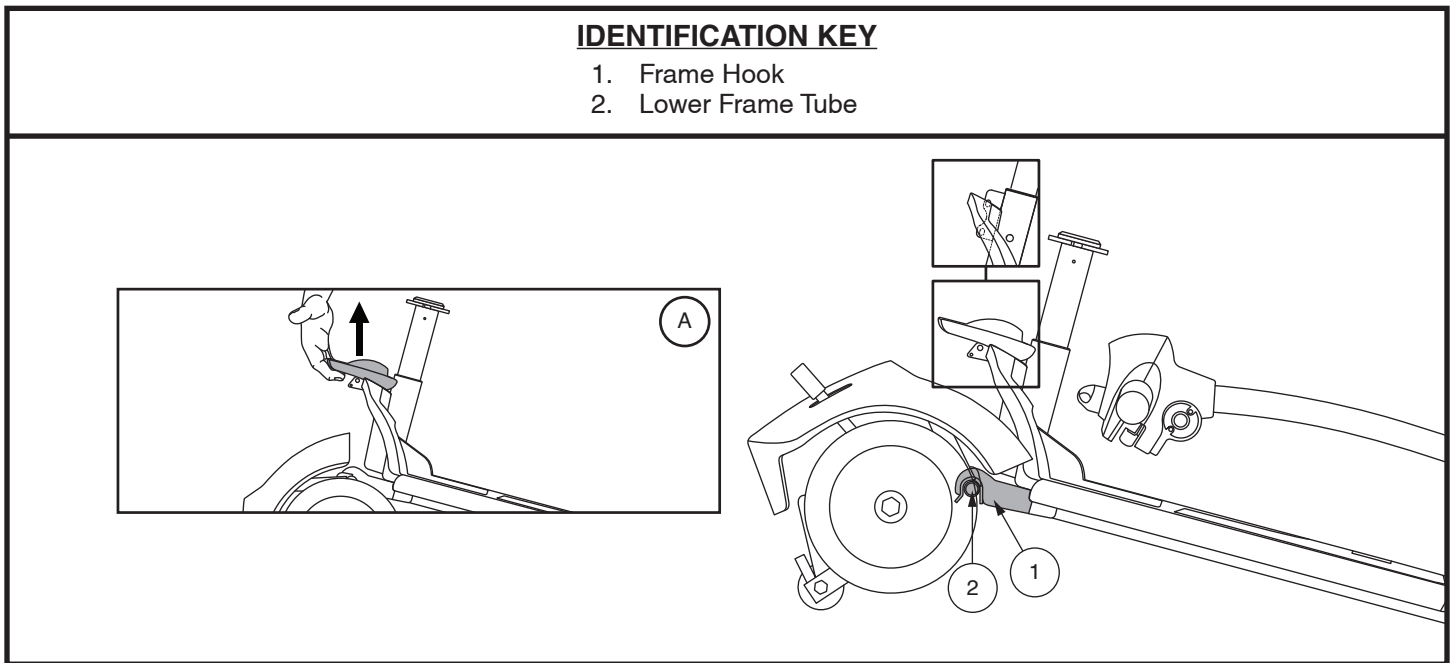

Figure 18. Frame Release Lever
3. Slowly separate the two sections of the vehicle. **See figure 18.**
1. Use the frame release lever to lift the front section as you align the frame hooks of the front section with the lower frame tube of the rear section. **See figure 18.**
2. Once the frame hooks are over the lower frame tube, lower the front section and pivot the rear section simultaneously. This will engage the frame lock-up automatically. **See figure 18.**